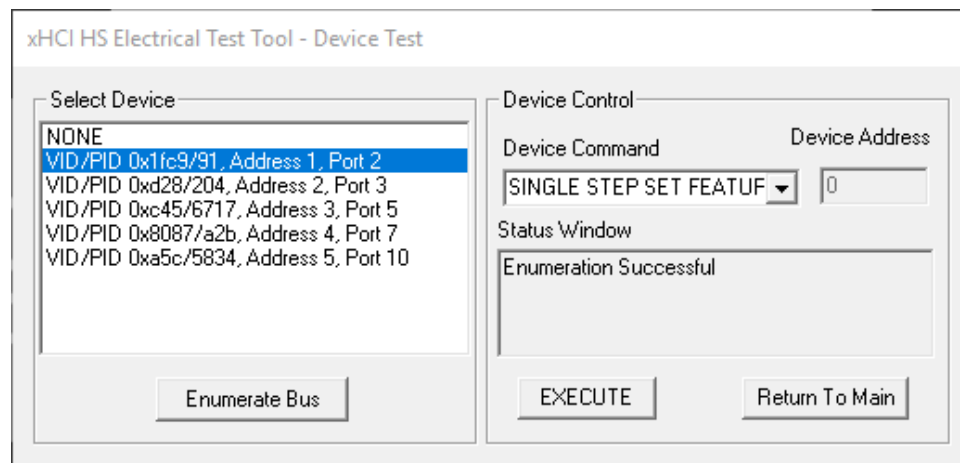

Figure 17. HSETT single step set feature command
- To restore the device to normal operation, cycle the device power and click **Run Tests** on the oscilloscope. As shown in Figure 17, in the **Device Test** menu of the HS electrical tool, click **Enumerate Bus** once. Observe the oscilloscope and verify the SOFs packets are being transmitted on the port under test.